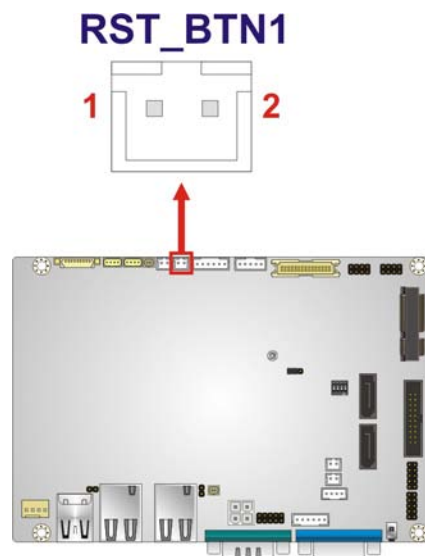

Figure 3-20: Reset Button Connector Location
- CN Location: See **Figure 3-20**